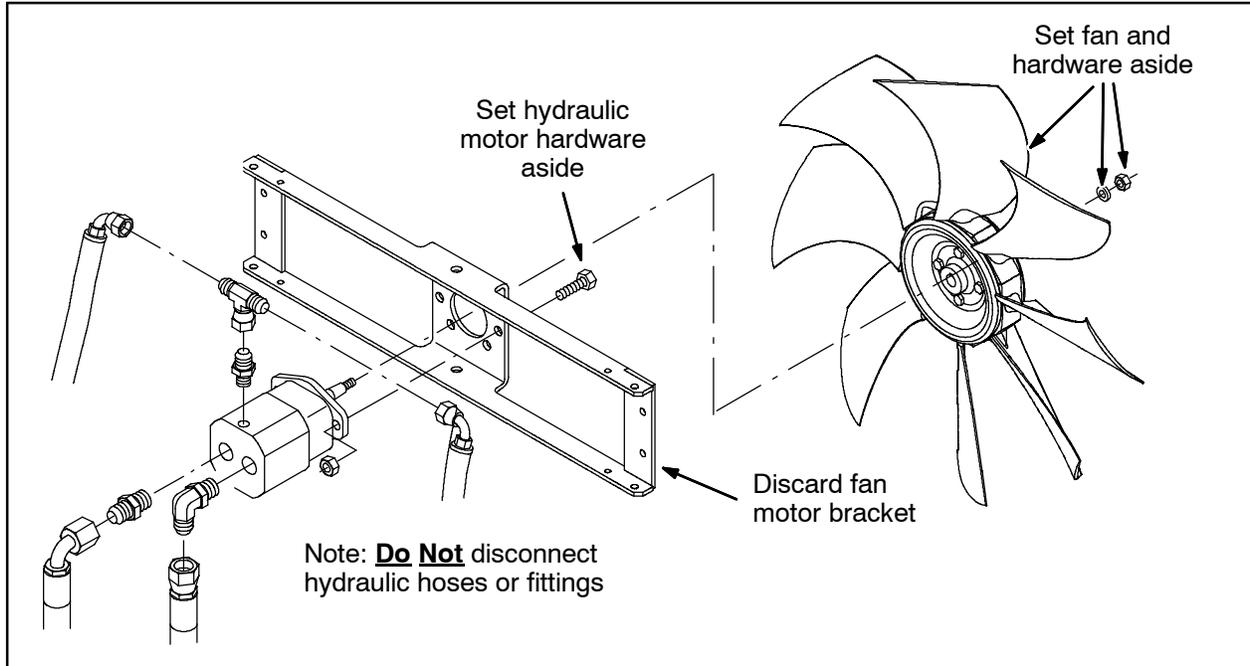
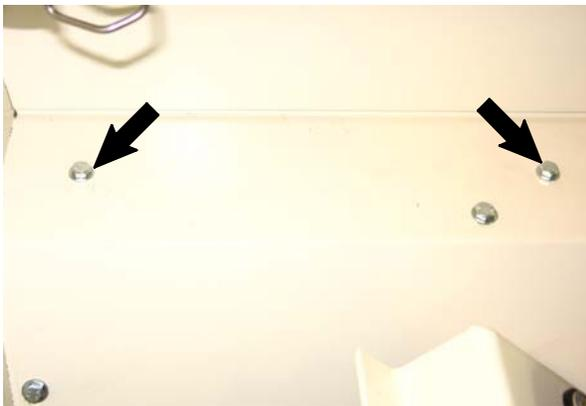
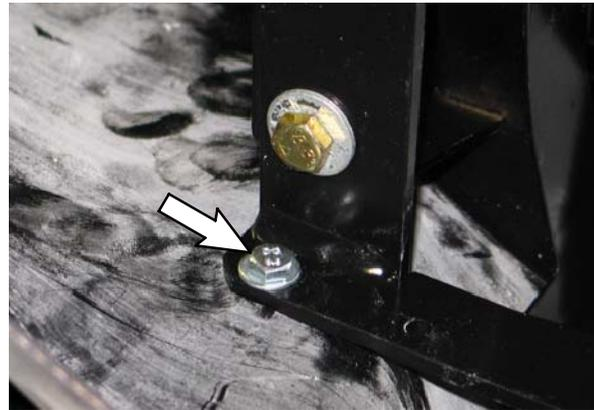
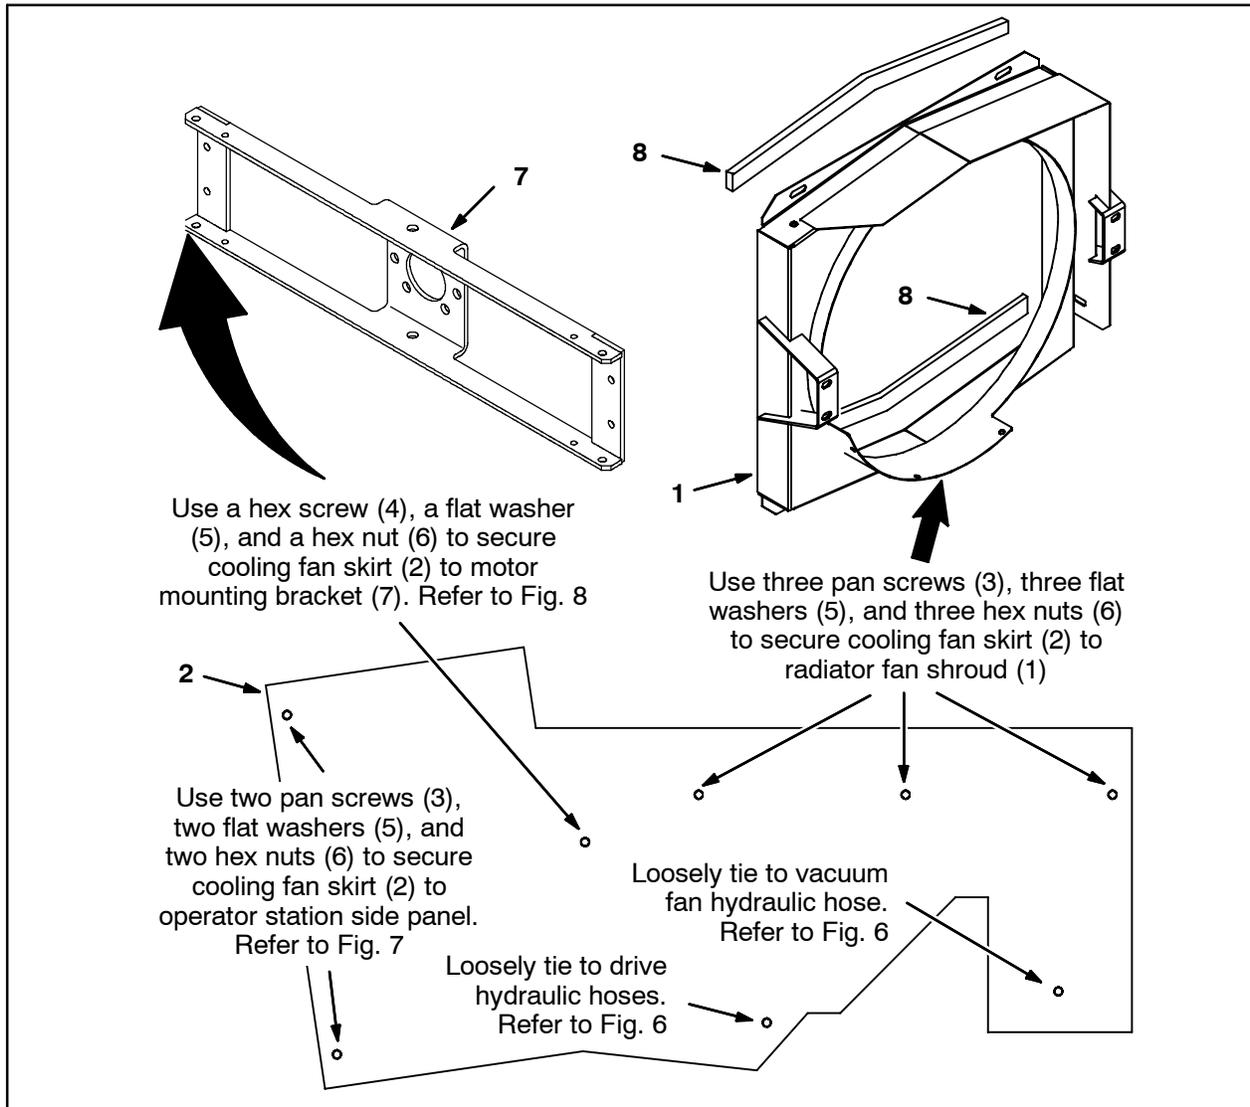

FIG. 3
FIG. 7
FIG. 8
FIG. 9
Refer to Fig. 3.
4. Remove the fan hydraulic motor from the fan motor bracket. Carefully set the hydraulic motor out of the way inside the engine compartment. **Do Not** disconnect hydraulic hoses / fittings when removing the hydraulic motor from the bracket. Set all mounting hardware aside. Discard the fan motor bracket. Refer to Fig. 3.
7. Install both 19" urethane (8) seals onto the new radiator fan shroud (1). Refer to Fig. 9.
8. Use three pan screws (3), three flat washers (5), and three hex nuts (6) to secure the cooling fan skirt (2) to the radiator shroud (1). Refer to Fig. 9.
12. Use two pan screws (3), two flat washers (5), and two hex nuts (6) to secure the cooling fan skirt (2) to the bottom of the operator station side panel where the two 0.276" (7.00 mm) holes were drilled. Refer to Fig. 7 and Fig. 9.
13. Install the fan hydraulic motor onto the new hydraulic motor mounting bracket (7). Refer to Fig. 3.
14. Reinstall the fan onto the hydraulic motor. Refer to Fig. 3.
15. Install the cooling fan assembly assembled in the previous two steps onto the radiator shroud (1).
16. Use a hex screw (4), flat washer (5), and hex nut (6) to secure the cooling fan skirt (2) to the hydraulic motor mounting bracket (7). Refer to Fig. 8 and Fig. 9.